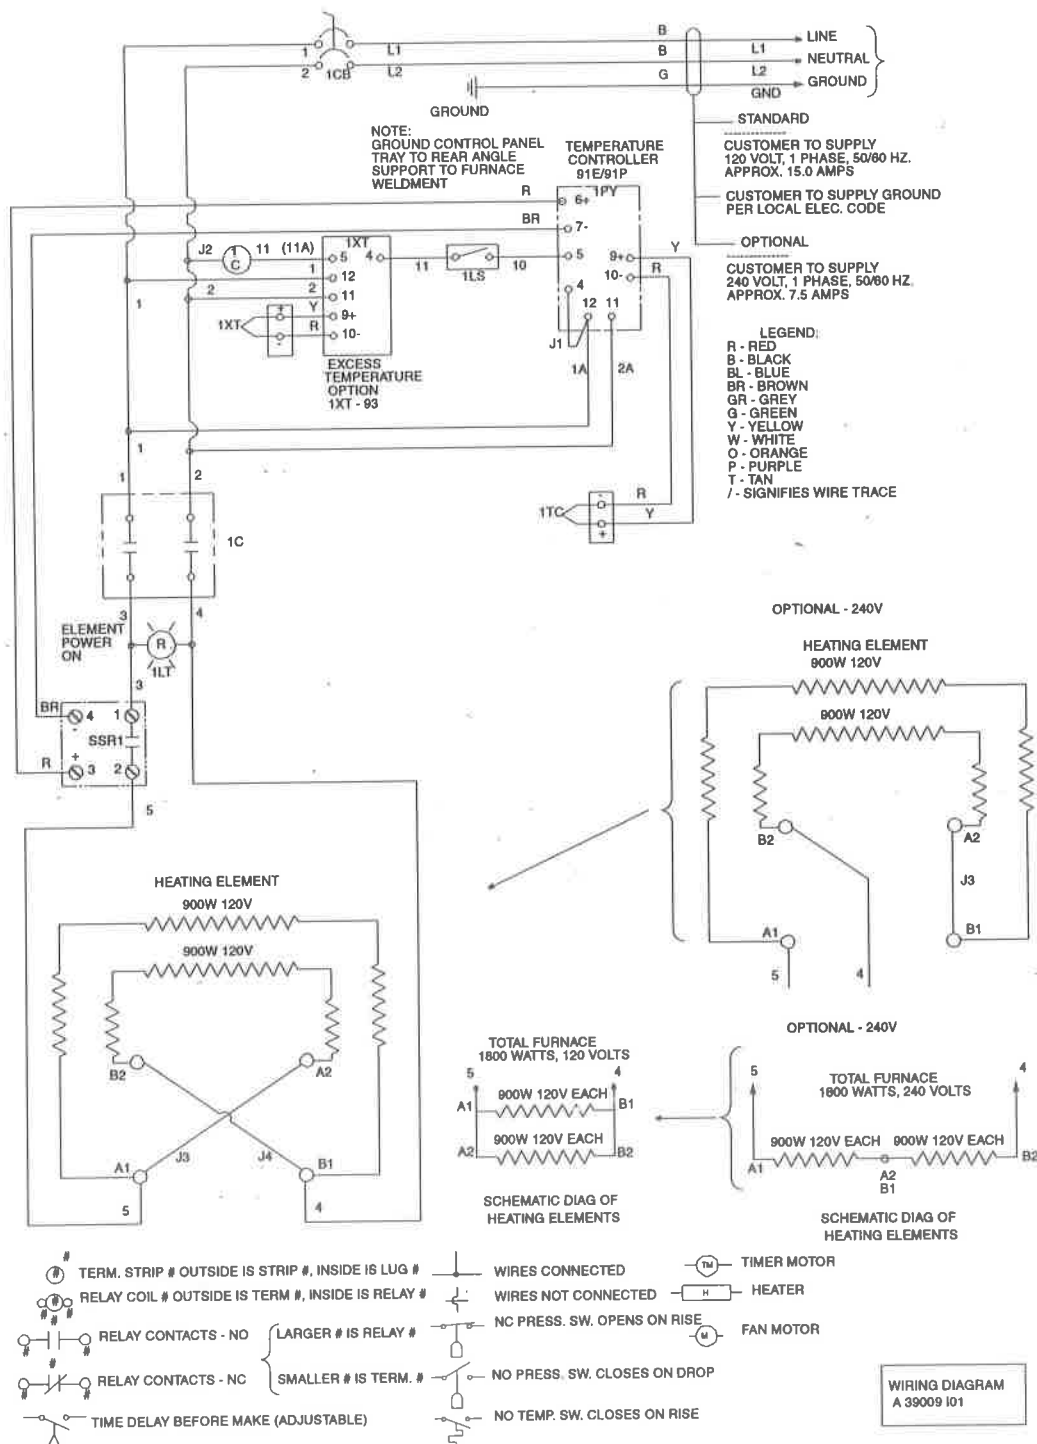
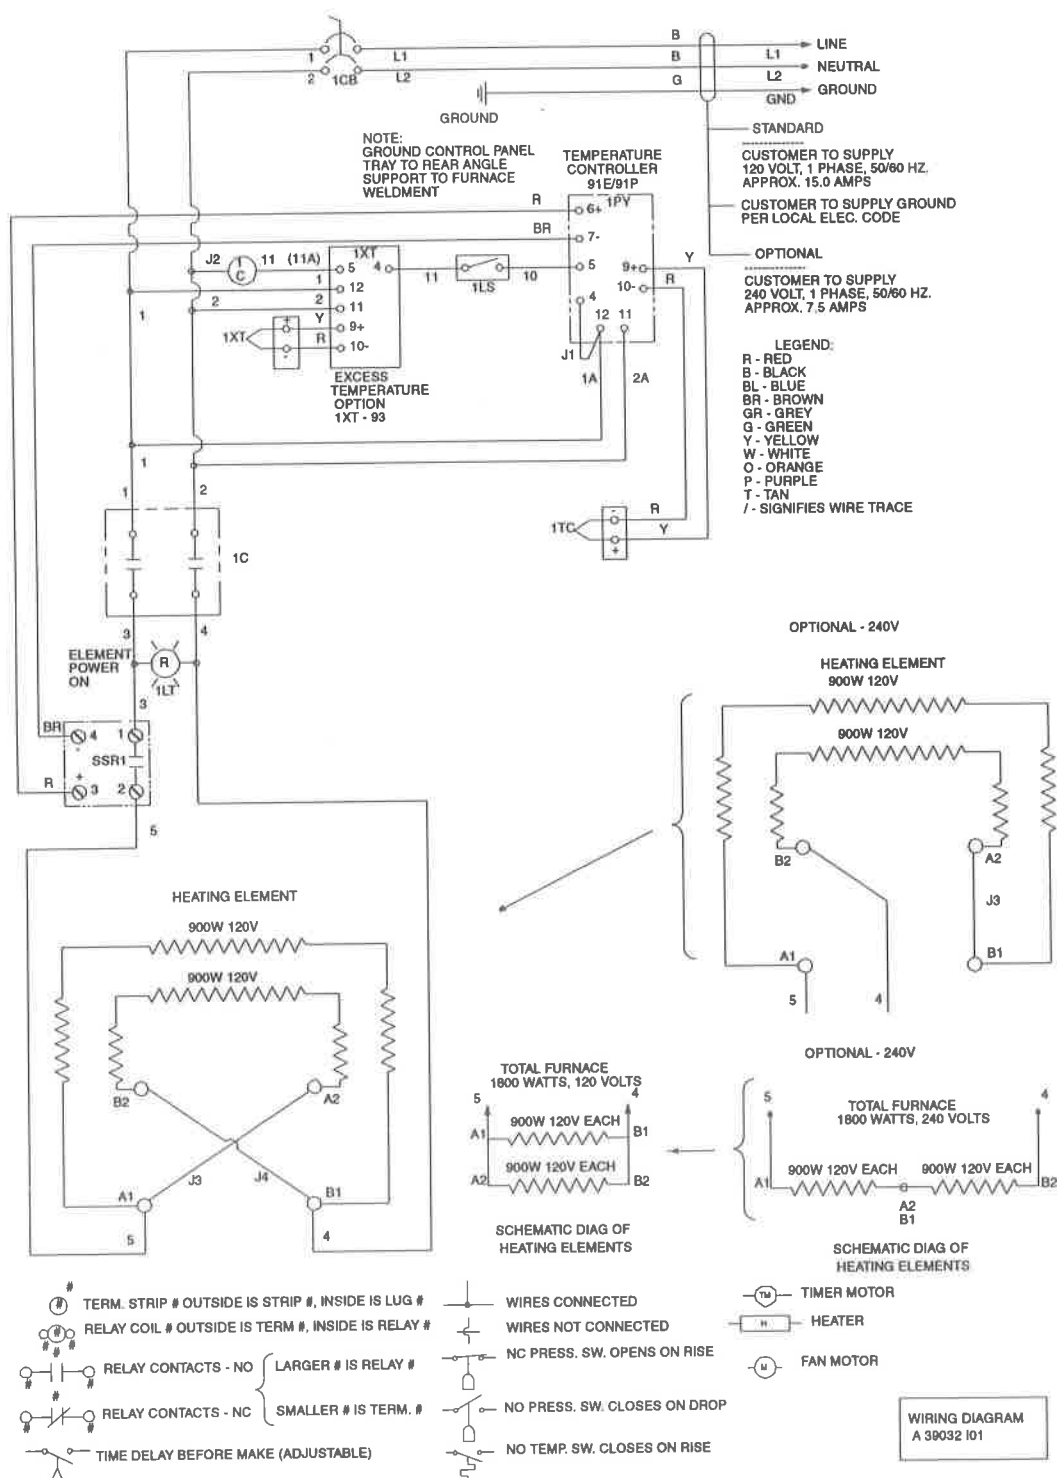
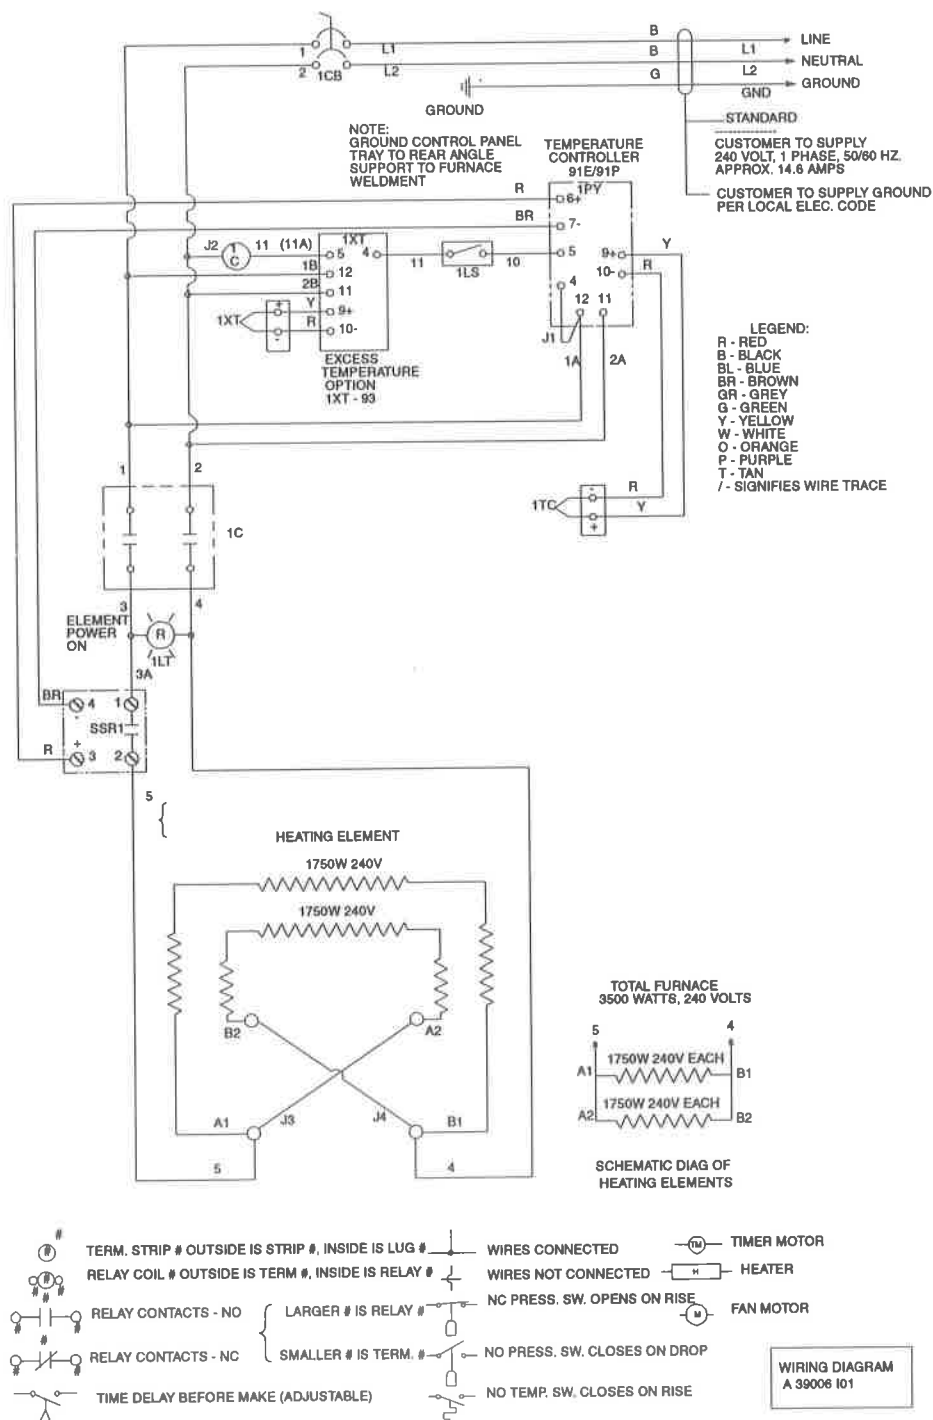

Figure 11. BF51748A and BF51748C
Figure 13. BF51766A and BF51766C
Figure 15. BF51794C
5. Install the replacement instrument by reversing the above procedure. For models BF51848A, BF51866A, BF51894C, and BF51828C, refer to the Instrument Terminal Connection shown in the wiring schematic (Figure 11 on page 17, Figure 13 on page 19, Figure 15 on page 21, or Figure 17 on page 23) for controller terminal connection.